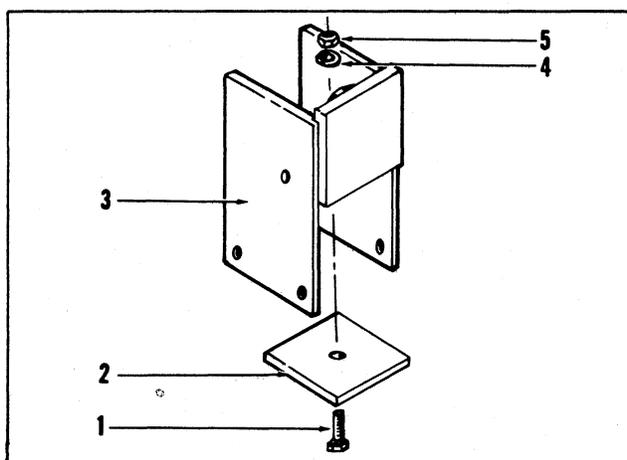

Figure 3
To attach the new wear pad, mark the push plate using the wear pad (2), Figure 3, as a template and drill an 11/32" hole. Use a 5/16" - 18 x 7/8" slotted flat head machine screw, a 5/16" - 18 hex nut, and a 5/16" lockwasher to fasten the wear pad to the push plate and tighten securely. The attaching hardware must be procured locally. Grade 5 hardware is preferred.